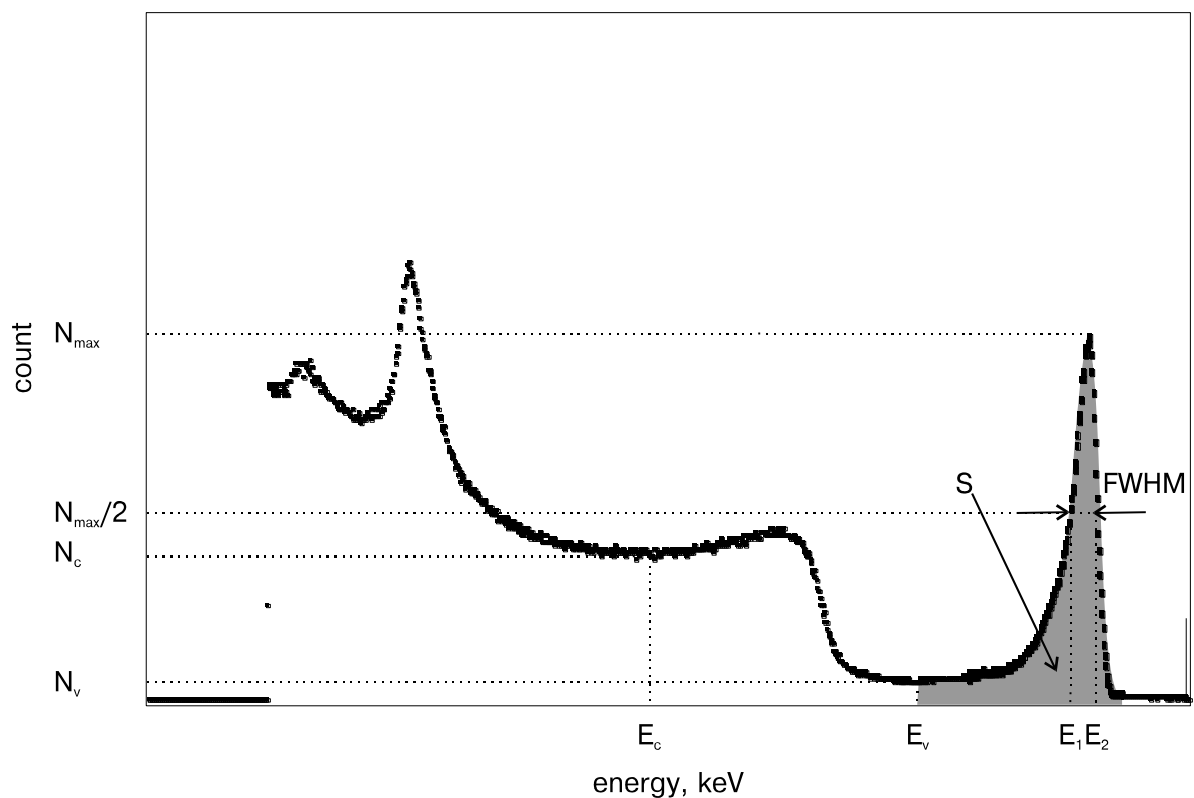

Fig. 7 – Quantities defined in the  $^{137}\text{Cs}$  spectrum to calculate the performance values.
- Calculate spectrum parameters: energy resolution FWHM ( $E_2 - E_1$ ), ratio peak-to-Compton ( $N_{max}/N_c$ ), see fig. 7.